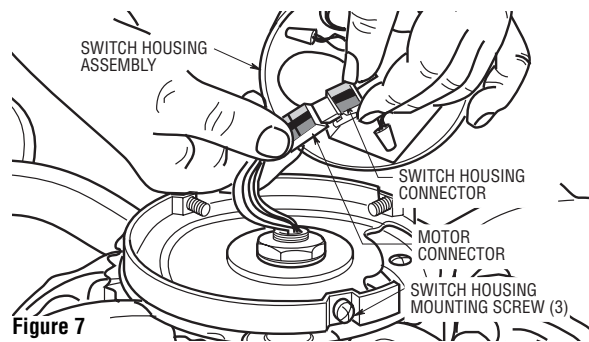
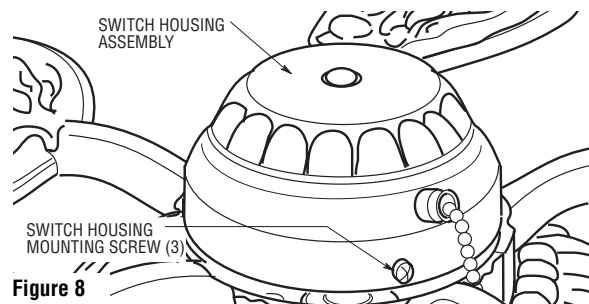

Figure 7
Figure 8
- 12. Engage the connector of the switch housing assembly with the motor connector (Figure 7). The two connectors are keyed and color-coded and must be mated correctly (color-to-color) before they can be engaged. Make sure the connector latch closes properly.
- 13. Remove the three switch housing mounting screws (Figure 7) from the switch housing plate. Position the switch housing assembly on the switch housing plate and align the holes in the switch housing assembly with the holes in the plate. Secure the switch housing assembly by installing the three mounting screws (Figure 8).